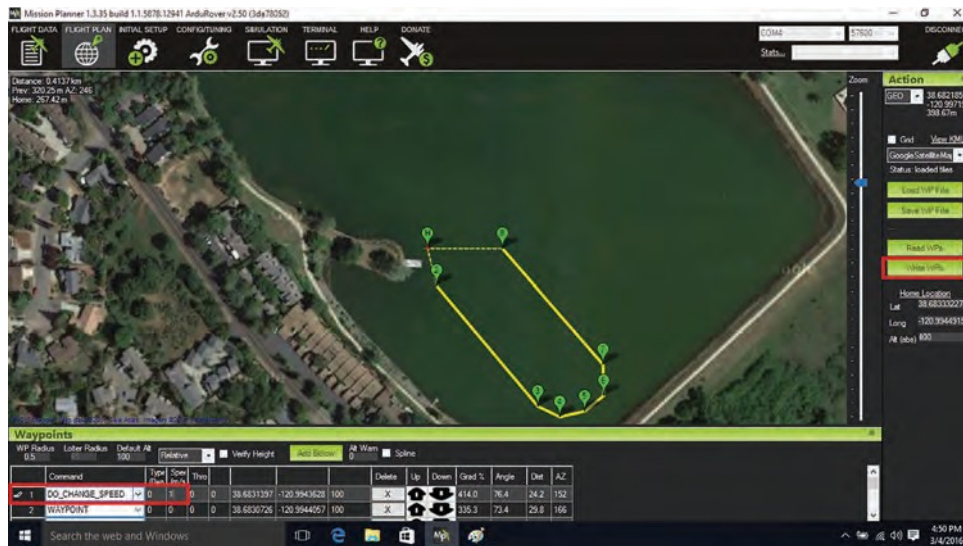

Figure 8: Add Waypoints by clicking on the map.
- E Click on map to add Waypoints—see Figure 8.
- F Click on Write WPs to upload to AutoNav (right side of screen)—see Figure 8.